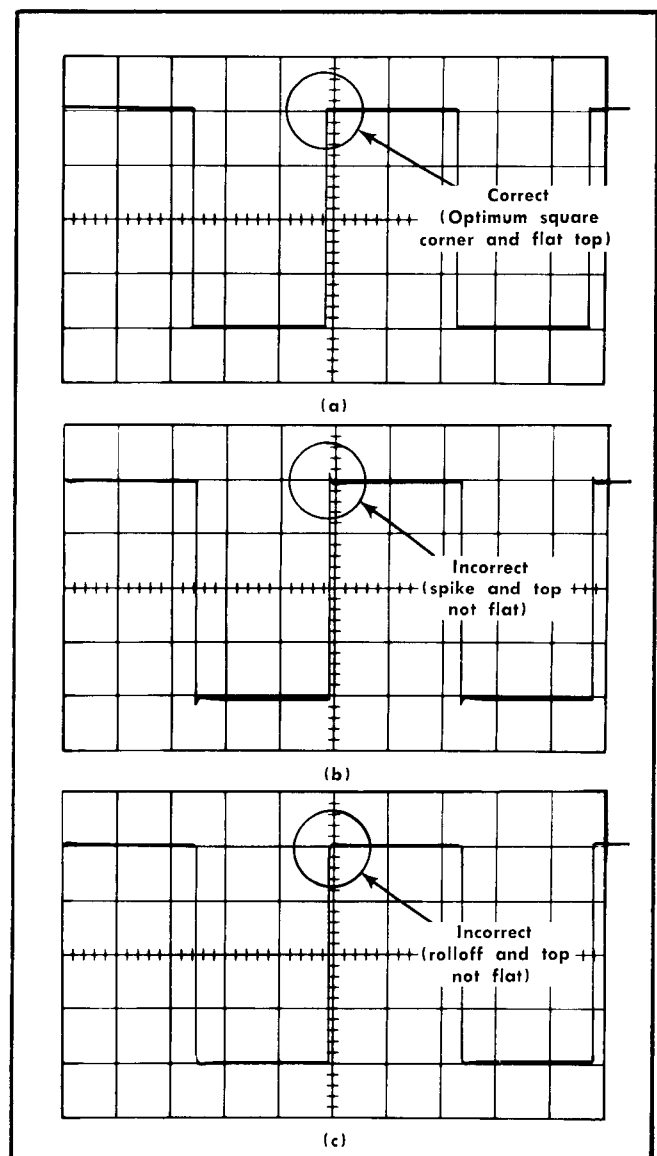

Fig. 5-6. (a) Typical crt display showing correct VOLTS/DIV switch compensation; (b) and (c) incorrect compensation.
e. Check—Top of square wave for minimum rolloff, overshoot or tilt (see Fig. 5-6). Repeat check at each CH 1 VOLTS/DIV switch position between 20 mV and 2 volts. Adjust the square-wave generator output or remove attenuation as needed to maintain 4-division display.
i. Check—Top of square wave for minimum rolloff, overshoot or tilt (see Fig. 5-6). Repeat check at each CH 2 VOLTS/DIV switch position between 20 mV and 2 volts. Adjust the square-wave generator output or remove attenuation as needed to maintain a 4-division display.